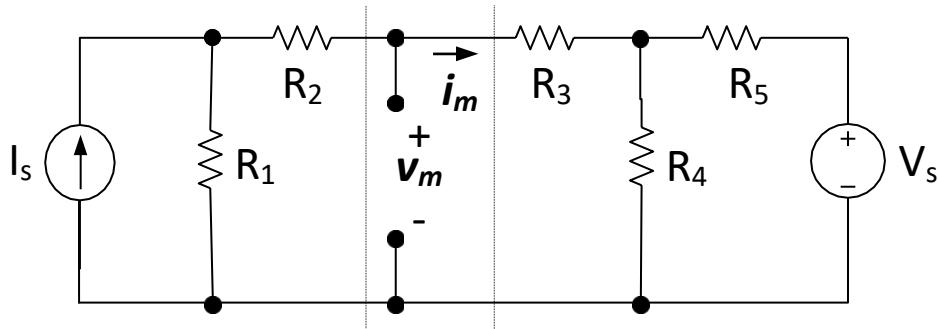

Figure 3.1 Circuit for node voltage, Thevenin and Norton equivalence/transformation.
Given the circuit in Figure 3.1 with component values $R_1=2 k\Omega$, $R_2=2.2 k\Omega$, $R_3=6.8 k\Omega$, $R_4=3.3 k\Omega$, $R_5=8.2 k\Omega$, $V_s=10 V$, $I_s=10 mA$:
- B. Derive a Thevenin equivalent for the portion of the circuit in Figure 3.1 that is to the **left** of v_m terminals.
- D. Sketch the reduced circuit with the new components and values you identified in (B) and (C), and mark both voltage v_m and current i_m in your sketch.
- E. Calculate the values of v_m and i_m in your simplified circuit model from (d) using the node voltage method. Are these values consistent with (A)?
- F. (LTspice) Run a DC op pt (DC operating point) simulation for the circuit in Figure 3.1 to obtain v_m and i_m . Make sure all circuit nodes, resistor and supply instances are clearly labelled in your schematic in order to make it easier to follow the simulation output report. Include LTspice schematic and simulation result window snapshots to the prelab report.
Setup the circuit of Figure 3.1 with the provided component and supply values in prelab Exercise 2. Set the current compliance (current limit) value for the voltage source to 20 mA. Set the voltage compliance (voltage limit) value for the current source to 20 V.